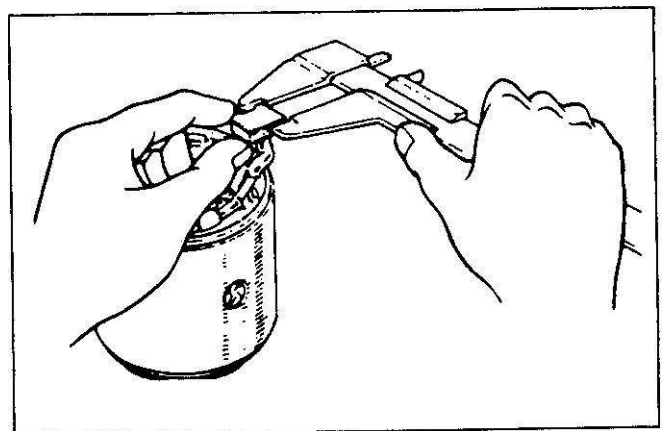

Figure 30. Measuring Brush Length
- Replace the brushes if the brush length is less than 13 mm (0.51 in) (figure 30).